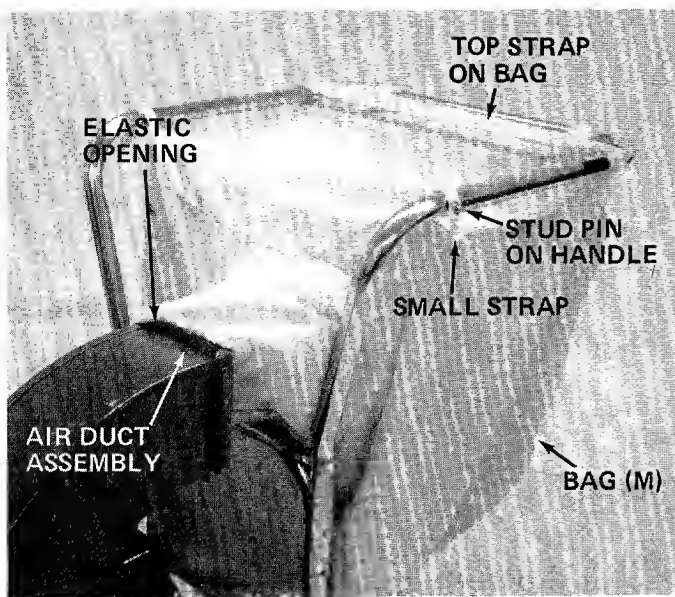

FIGURE 7.
5. Assemble the bag by slipping the top straps on bag (M) over upper handle. Hook two small straps over stud pins on handle. Slip elastic opening of bag over air duct assembly. See figure 7.